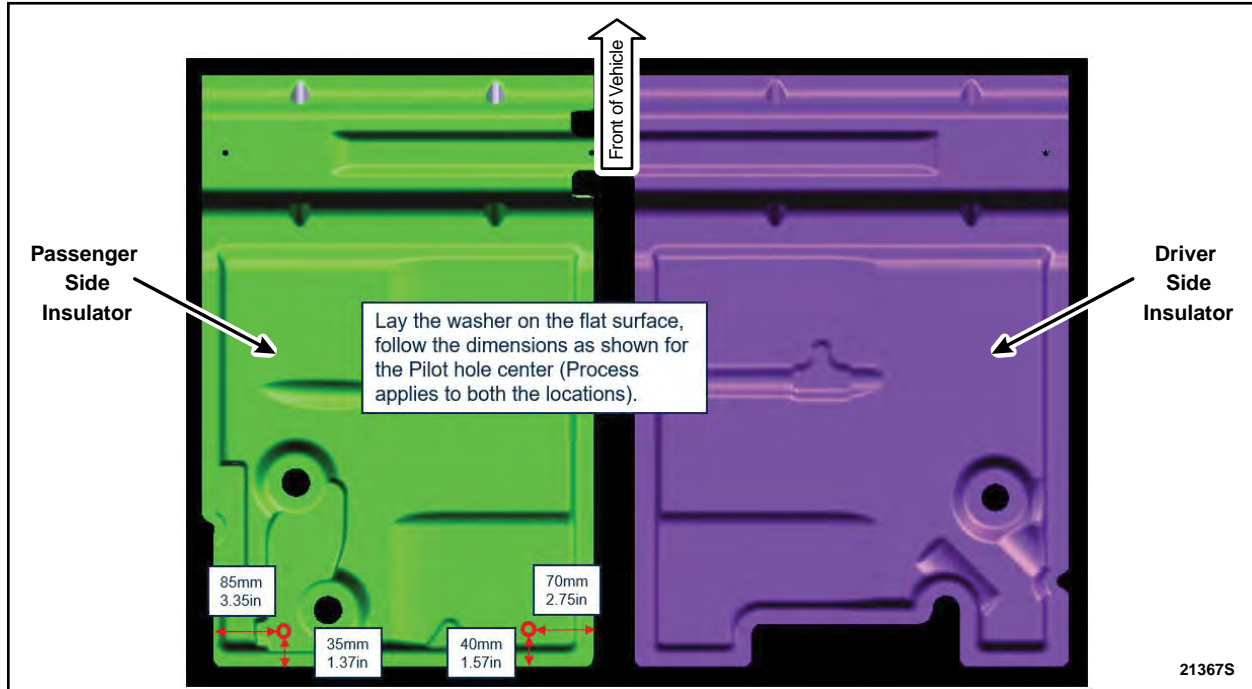

FIGURE 10
10. Measure and mark the two locations on the passenger side insulator. See Figure 10.